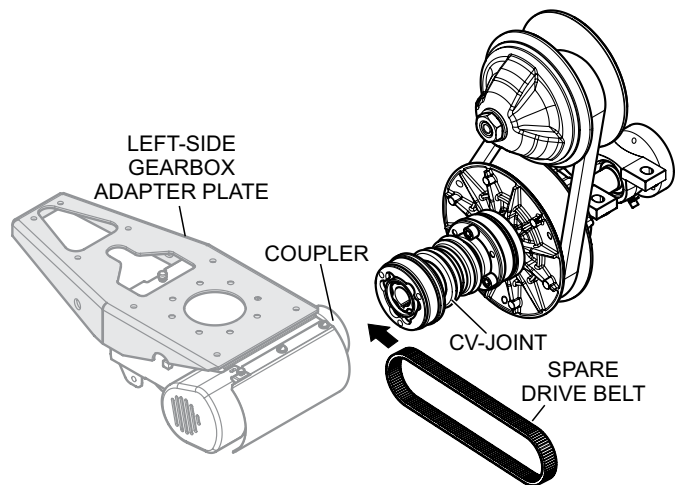

Figure 34. Spare Drive Belt Routing
- Mount new spare drive belt and cover (Figure 34) onto left-side gearbox. Reinstall the 2 bolts that secure the spare belt holder to the left-side gearbox adapter plate.